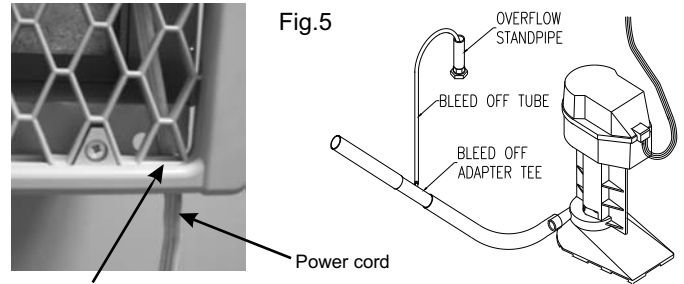

Fig.5
4. Route the power cord through the grille and out of the slots in the grille frame (see Fig 5), using the mark made earlier on the cord to put it back in the proper location. Place the grille assembly on the modified duct extension and secure, using the 4 screws removed prior to the duct extension modification (page 3).